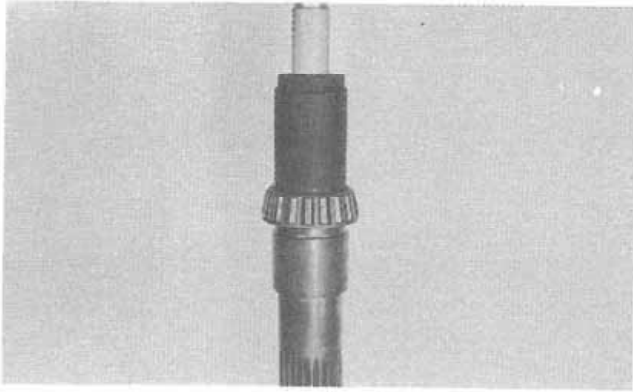

Figure 6:
5. Install the bearing cone on the front of the output shaft (Fig. 6). Take care as not to damage shaft threads.